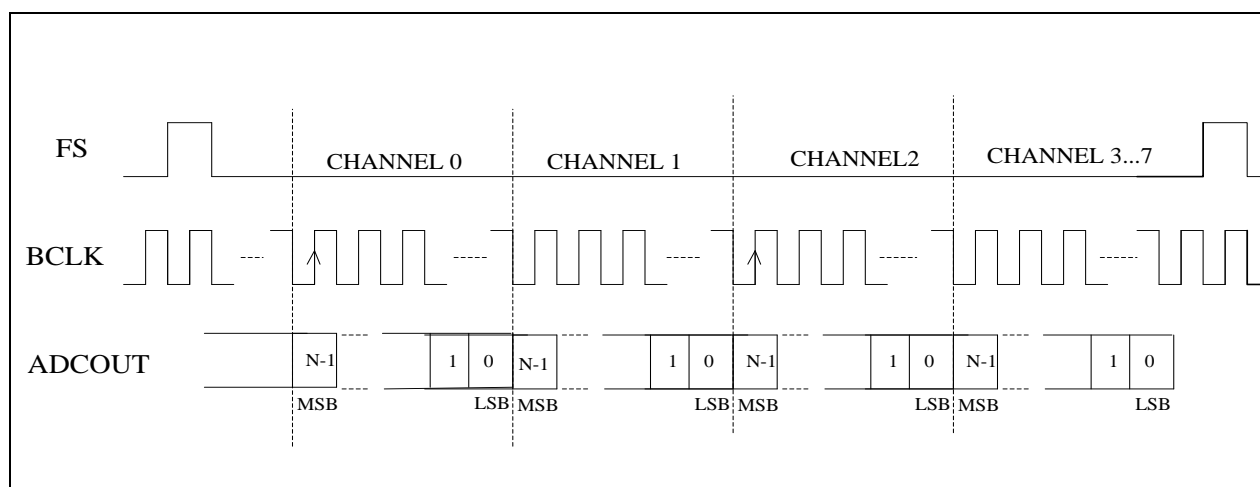

Figure 34 PCM Time Offset Audio Data
Normally, the DAC and ADC data are clocked immediately after the Frame Sync (FS). In this mode, audio data are delayed by a delay count specified in the device control registers. The Channel 0 MSB is clocked on the BCLK rising edge defined by the delay count set in LEFT_TIME_SLOT_TSL0T_L0_REG0XF[9:0]. The subsequent channel's MSB is clocked on the next BCLK after the LSB of the previous channel. This can be seen in **Figure 34**.